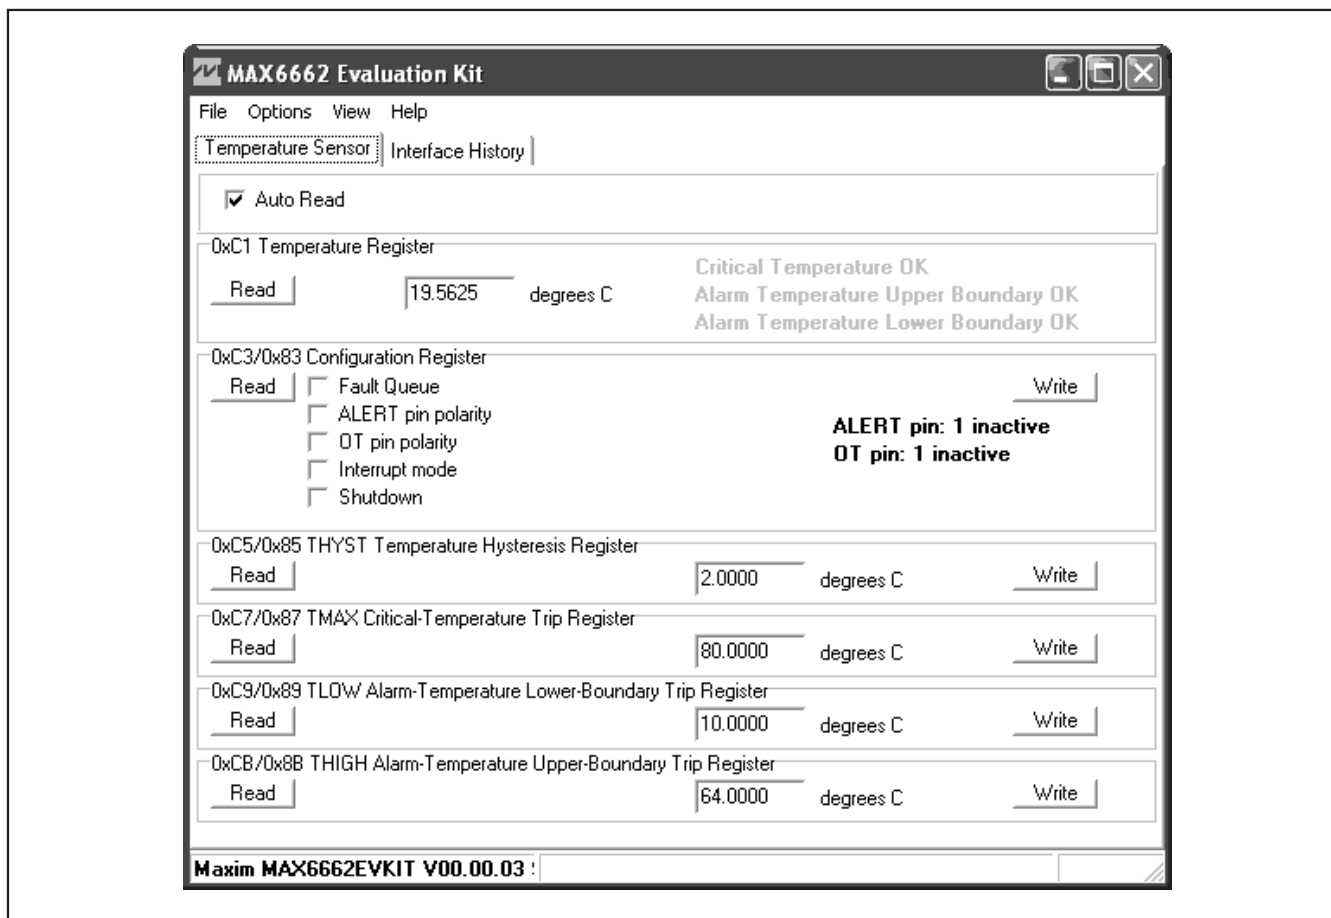

Figure 1. MAX6662 EV Kit Software Main Window (Temperature Sensor Tab)
- 6) Start the MAX6662 EV kit software by opening its icon in the **Start | Programs** menu. The EV kit software main window appears, as shown in Figure 1.
The main window of the evaluation software (Figure 1) displays the registers of the MAX6662 temperature sensor. Each register has a **Read** button and each writeable register has a **Write** button. The status of the ALERT and OT output pins are displayed inside the **0xC3/0x83 Configuration Register** group box.
The **Temperature Sensor** tab sheet displays the temperature sensor registers of the MAX6662 (Figure 1).